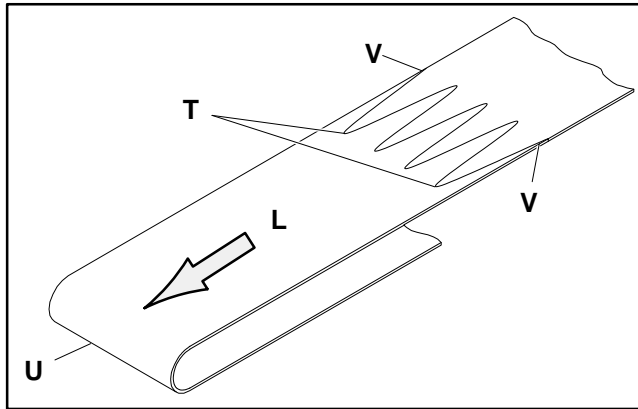

Figure 21: Replacement Belt Orientation Detail
- Orient the replacement belt so the belt splice leading fingers (T of Figure 21) point in the direction of belt travel (L), towards the bottom wiper end (U) of the conveyor, and that the outside fingers (V) are positioned as shown.